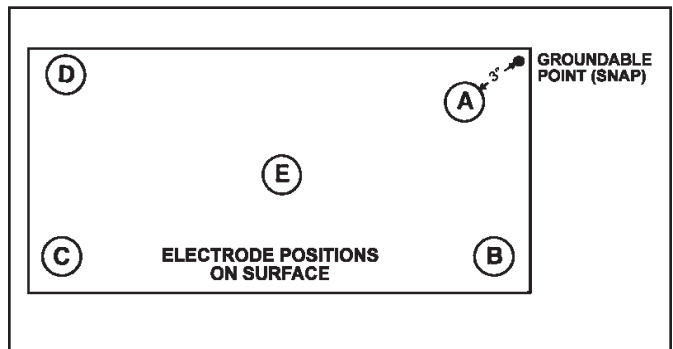

Figure 9. Electrode positions on surface of pad, RTG test.
There are two types of tests for monitoring NVMT surface electrical characteristics. One type of test is RTG - Resistance To Ground (see Figure 9). In this test you measure the resistance of the laminate surface to the installed ground bolt (or snap on a NVMT Pad). When performing this test on NVMT Pads the snap serves as the ground point.
5. Place the electrodes in position A as shown in RTT test diagram (Fig. 9). Set the meter selector switch to 100V.